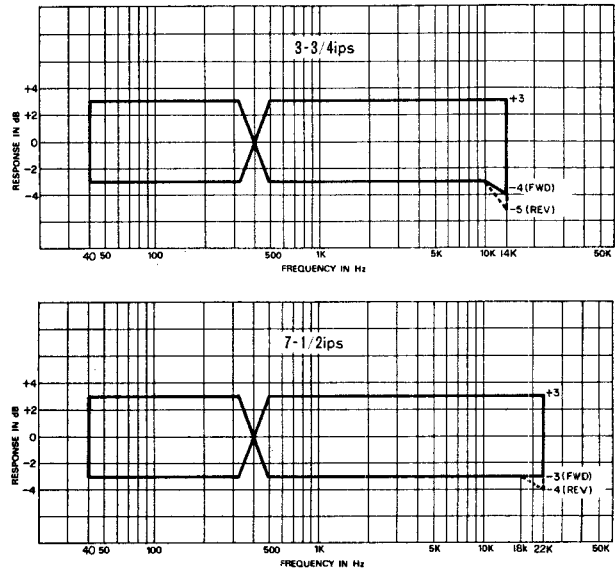

Fig. 8-5 Frequency Response — Playback —
16. Play Tape and compare readings on VTVM with the response limits given in Fig. 8-5.
20. Depress Reverse Play (◀) button and check for suitable output from both channels. See response limits given in Fig. 8-5.